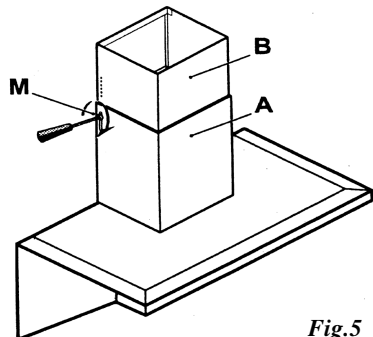

Fig.5
- Take the two chimney ducts A and B (Fig.5) and rest the lower part of duct A on top of the hood.
- Fasten it with the screws M (Fig.5), provided.